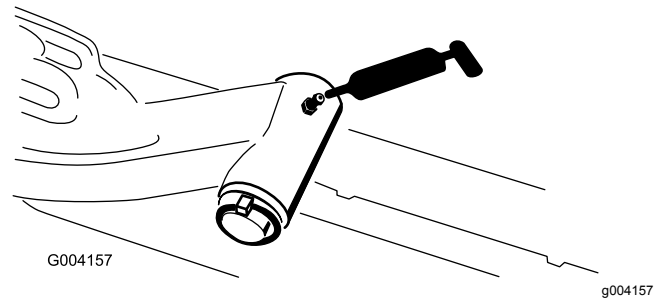

Figure 30
- Lift-arm pivot shaft (1 each)—Figure 30